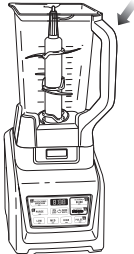
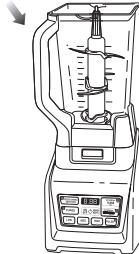

Fig. 4a
Fig. 4b
- 6 The pitcher can be placed on the motor base two ways; the handle can be on the front right corner or the front left corner. **(Fig. 4a, Fig. 4b)**